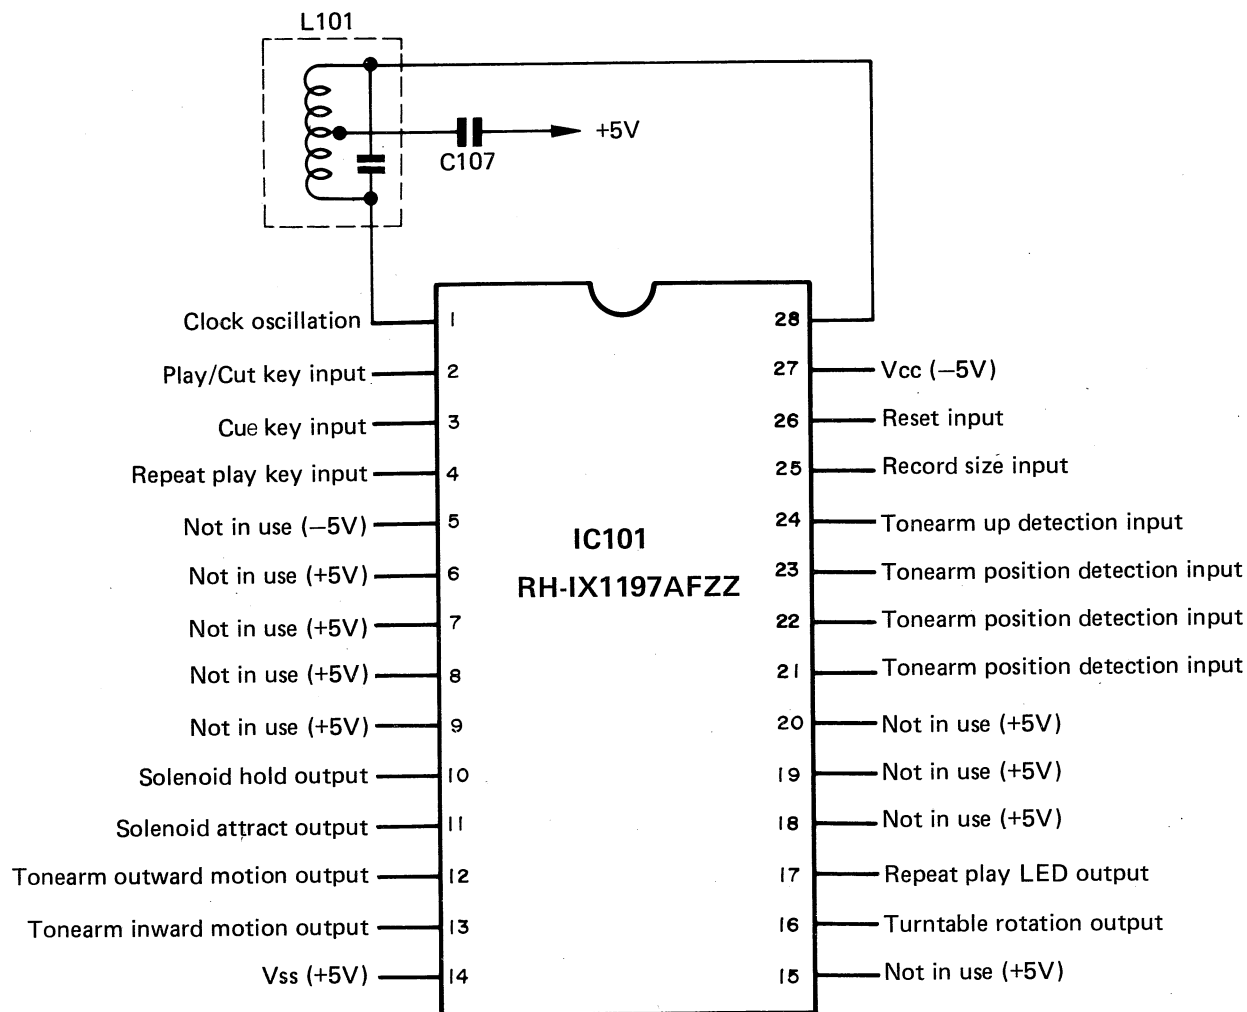

Figure 6 IC101 (RH-IX1197AFZZ)
**(G) MICROPROCESSOR** (See Figure 6)
**(H) TURNTABLE START/STOP SELECTOR CIRCUIT**
- When pin (16) of IC101 is at "low" level, pins (1) and (2) of C MOS analog switch turn off and Q106 turns on, thereby causing the motor to stop rotating.
- When pin (16) of IC101 is at "high" level, pins (1) and (2) of C MOS analog switch turn on and Q106 turns off, thereby causing the motor to start rotating.
**(I) POWER CIRCUIT**
**(J) STROBOSCOPE LED DRIVE CIRCUIT**